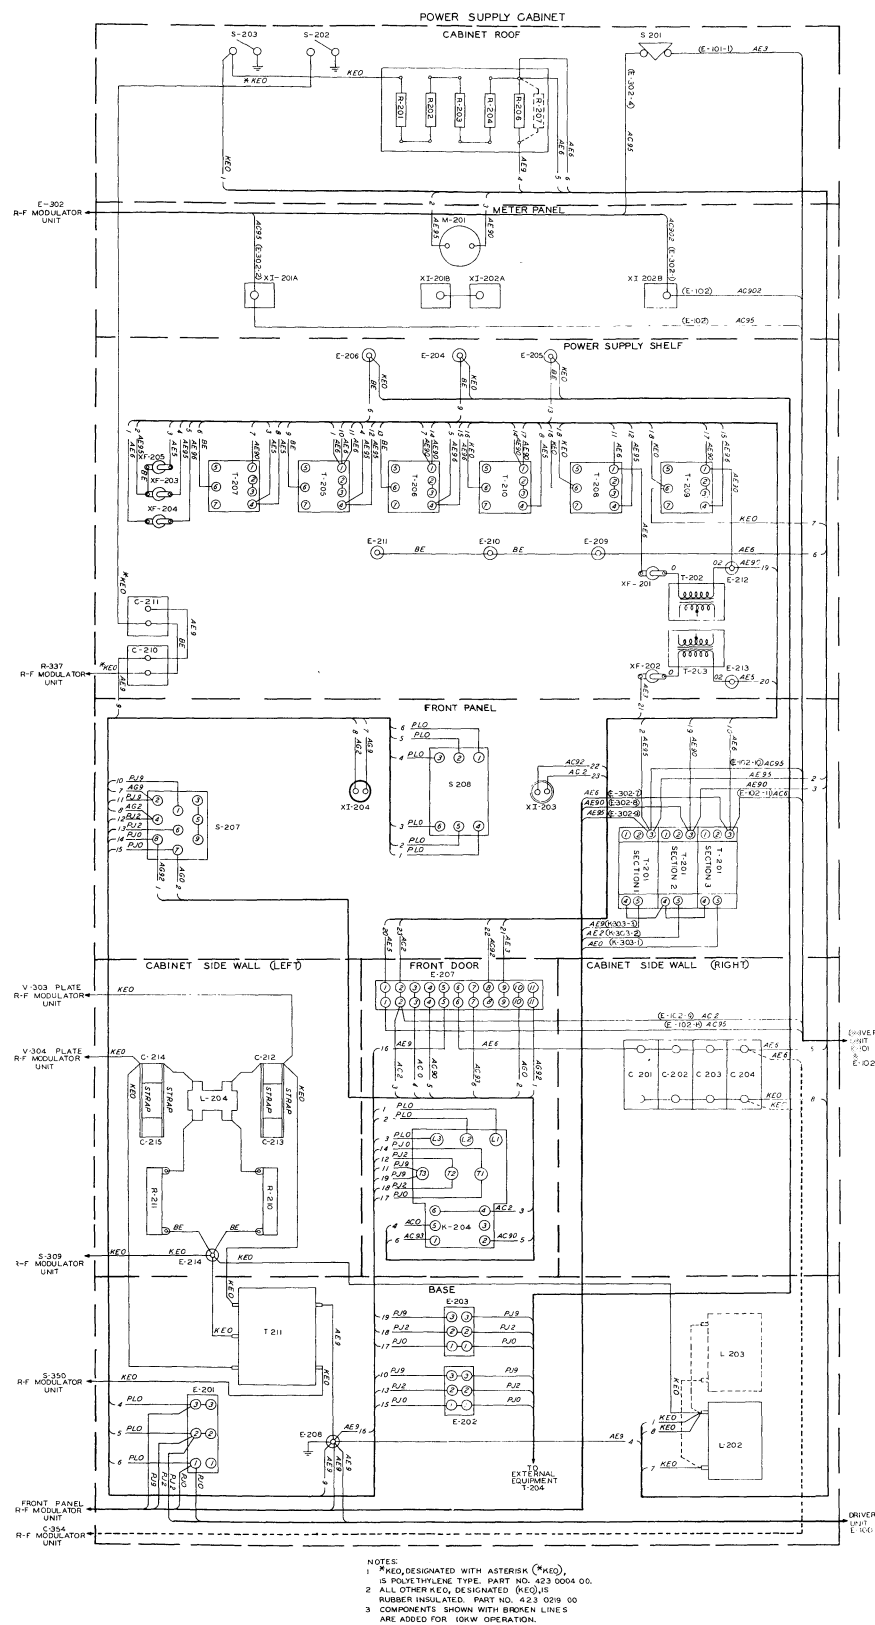

Figure 2-2. Power Supply Cabinet
- d. Install and connect the audio compensating board as shown in figure 2-2.